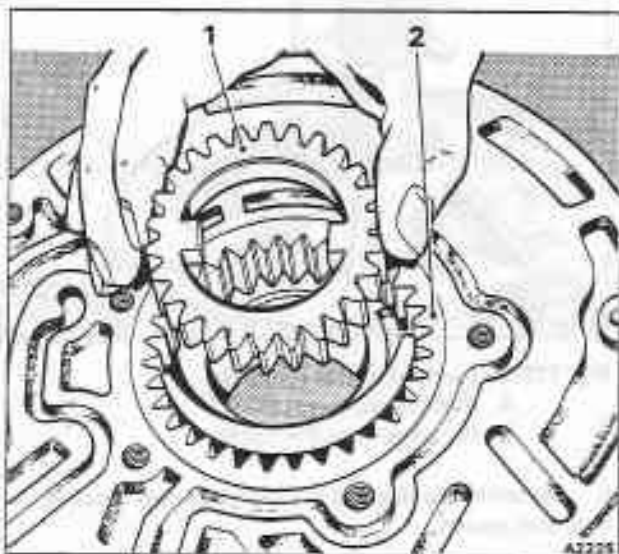

Fig. T17-3 Removing the pump gears
7. Remove the gears from the pump body as shown in figure T17-3.
Fit the drive gear with the drive tangents uppermost (see fig. T17-3).